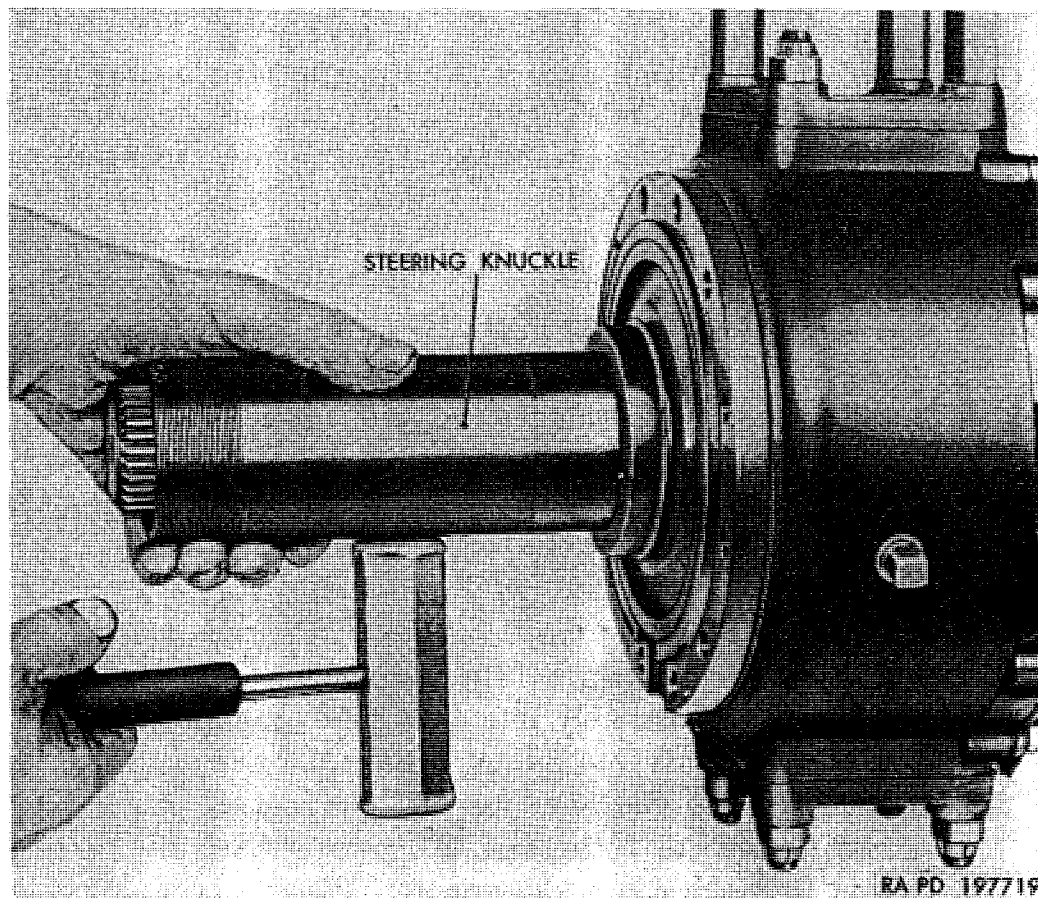

Figure 231. *Removing steering knuckle.*
- (6) *Remove steering knuckle.* Tap steering knuckle with soft hammer as shown in figure 231 to loosen from steering knuckle support; then remove steering knuckle. Remove old gasket from steering knuckle and knuckle support.